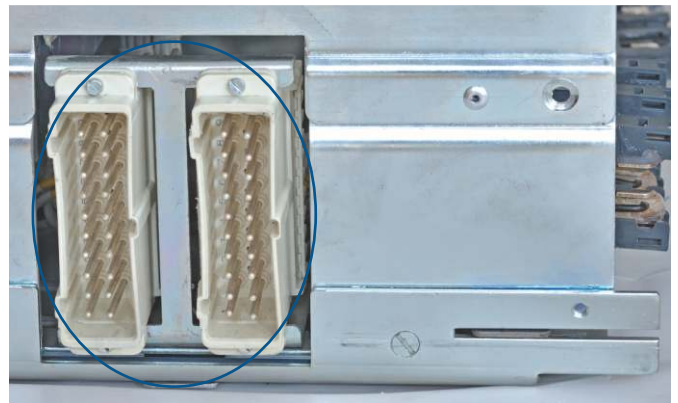

Figure 23 - SICs in a full width module
13. The control contacts, i.e. the Secondary Isolating Contacts (SICs) are mounted in 2 columns in the full width module. Both columns can have the following varieties of SICs Figure 23.